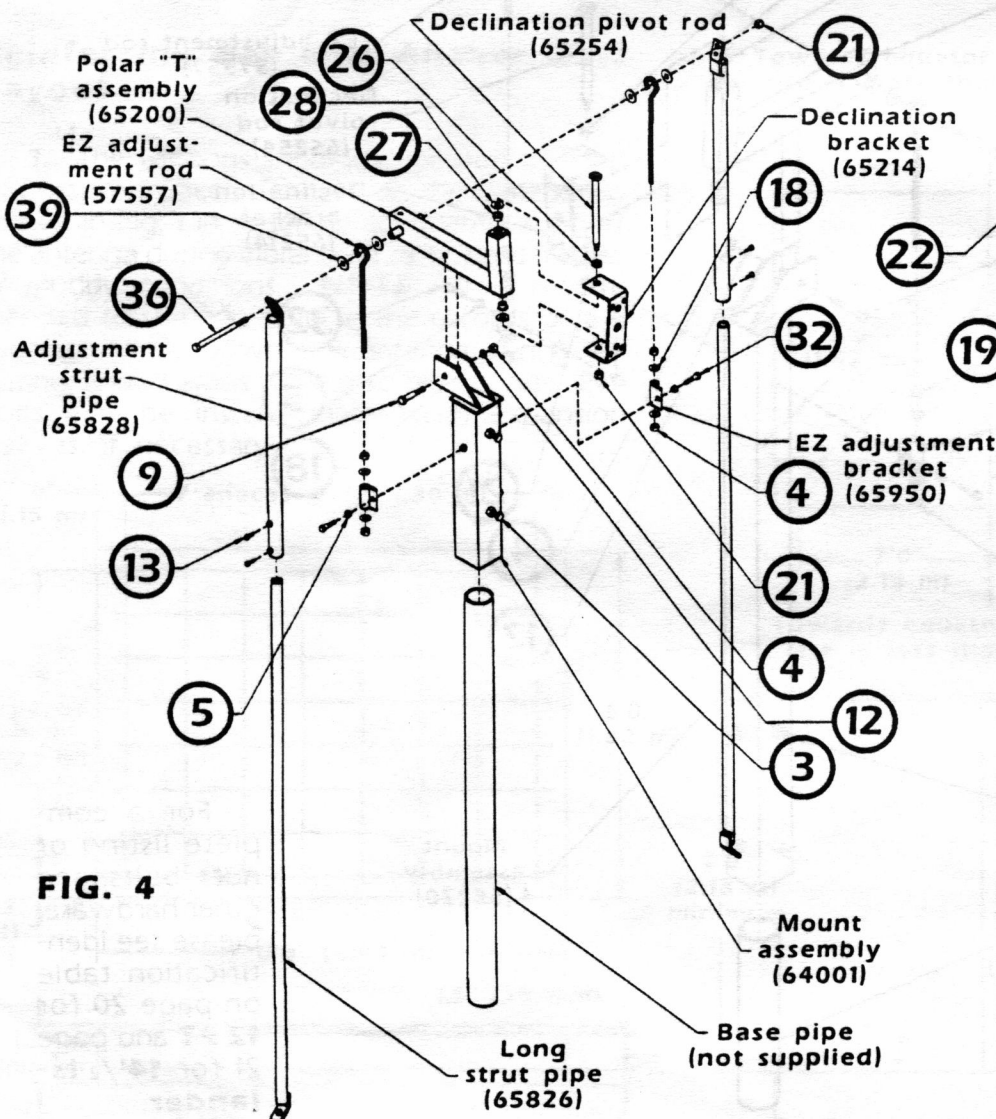

FIG. 4
1. Slide the mount assembly over the base pipe. Finger tighten the four 5/8" x 1 1/4" bolts on the mount assembly onto the base pipe. (See Fig. 4)
2. Attach the preassembled declination/polar "T" assembly to the mount assembly using one 5/8" x 3 1/2" bolt, one 5/8" lock washer, and one 5/8" nut. Do not tighten. (See Fig. 4)
to attach the assembled EZ adjustment rods (through the EZ adjustment brackets) to the mount assembly. Do not tighten. Attach the assembled EZ adjustment rods to the polar "T" assembly and the two adjustment strut pipes using one 5/8" x 8 1/2" bolt, four 5/8" USS flatwashers, and one 5/8" nyloc nut. Do not tighten. (See Fig. 4)
4. Attach the two long strut pipes to the adjustment strut pipes using four 3/8" x 1" bolts. Attach the long strut pipes to the 3/4" x 12" anchor bolts using two 3/4" flatwashers and two 3/4" nyloc nuts. Do not tighten. (See Fig. 4 & 5)